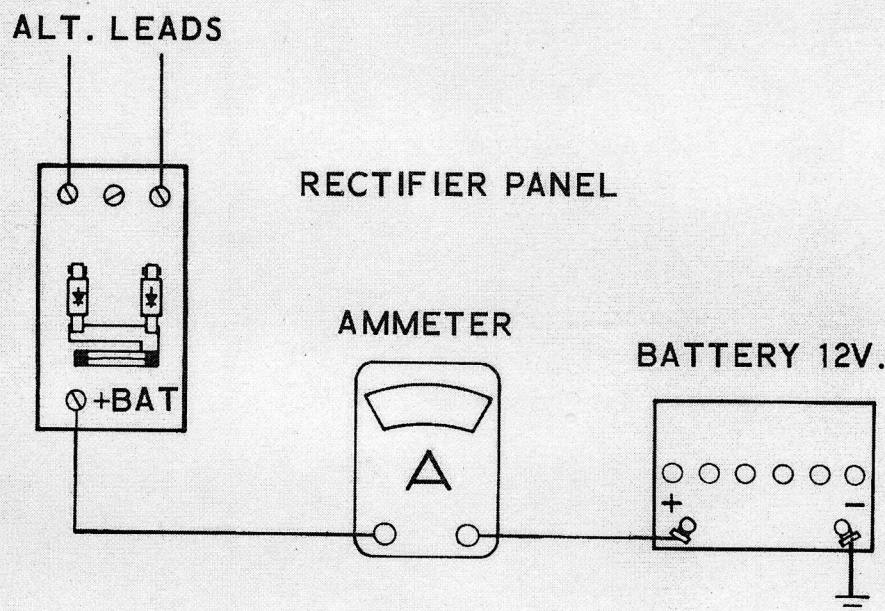

Figure 15
1. Remove red lead from battery terminal of rectifier panel - Figure 15.